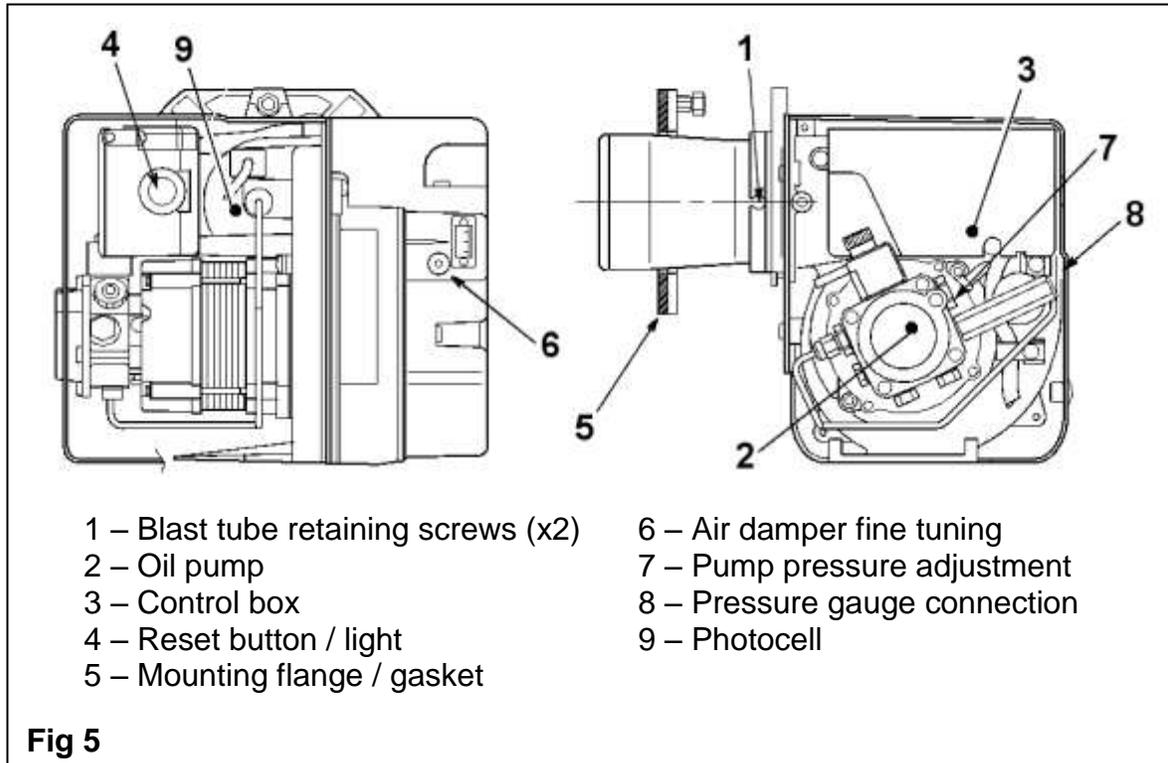

Fig 5
4. Remove the blast tube (**fig 5**), exposing the nozzle holder assembly.